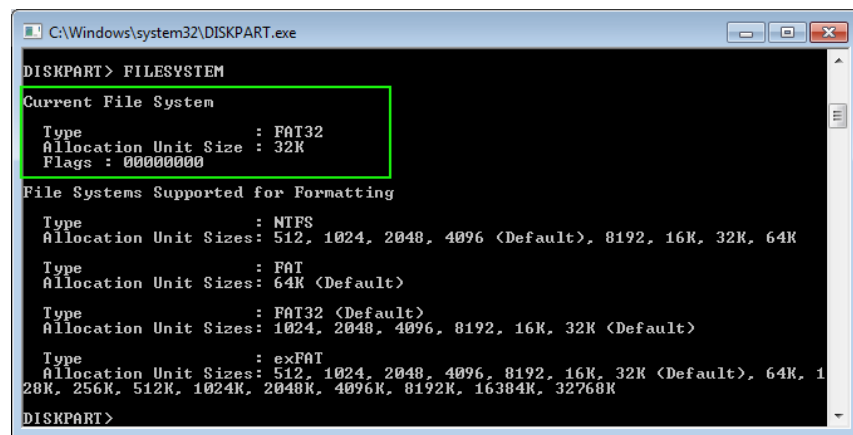

Figure 17 SD Card – Windows Diskpart - FileSystem
- List details about the file system using FILESYSTEM command. Make a note of the type and the allocation unit size as shown in Figure 17.